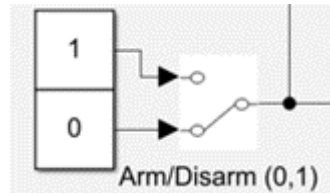

Figure 3. Motor Switch set to off in the QDrone 2 IO check model.
6. Ensure that the **Arm/Disarm Switch** in the model (Figure 3) is set to 0.